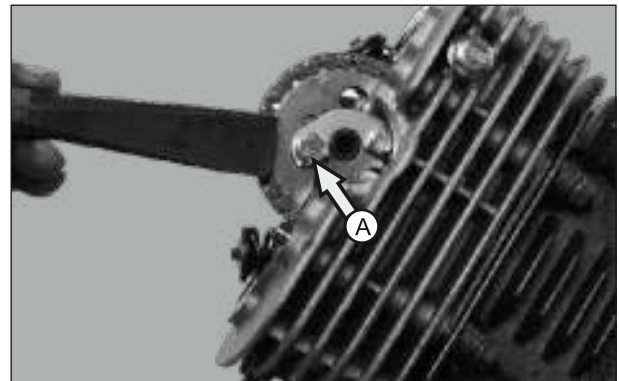

Fig. 3.53
- Unfold the washer sprocket (A). (Fig. 3.53)